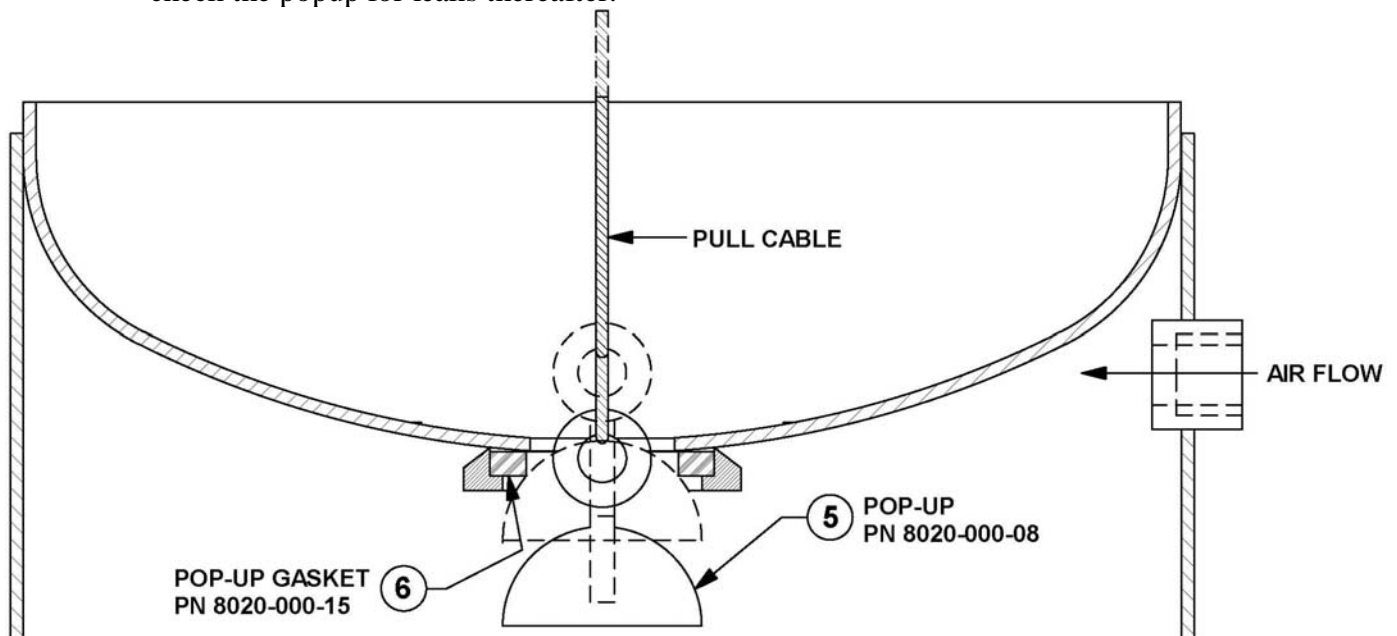

Figure 7.1 – Mini Abrasive Blaster with pneumatic blast controls
7.1.2. Remove the screen (#29) to check that the popup (#5) has dropped open. The open popup indicates that the blast vessel is depressurized. See Figure 7.1.
- 7.2.6. Pull the popup head (#5) up against the gasket (#6) and securely hold the popup in position by maintaining a tight pull on the cable. See Figure 7.1